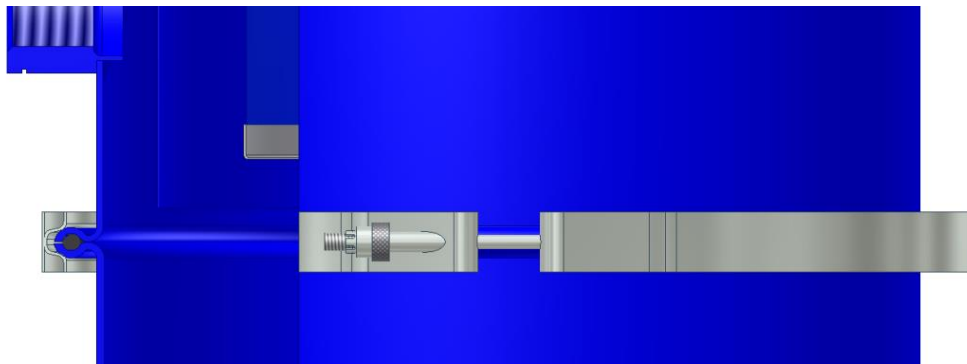

Figure C.5.2: Correct placement of V-Band.
- C. Secure V-band by disconnecting hex nut or T-bolt portion and placing V-band along the diameter of canister O-ring groove. Fasten nut or T-handle and secure tightly. V-BAND LEGS MUST REST UNIFORMLY ALONG ENTIRE O-RING GROOVE! See figures C.5.2 and C.5.3.